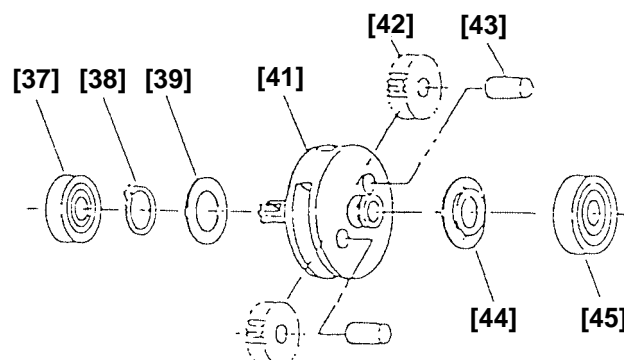

Fig. 30
(4) Second pinion section (Fig. 30)